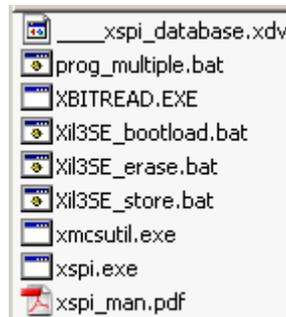

Figure 1 – FLASH_BURN Directory Contents after Extracting XSPI
- The version of XSPI included with this project is dated January 26, 2006. If you would like to update XSPI, unzip XAPP445 design file install_xspi.zip into the Xil13S500E_Serial_Flash_v81\FLASH_BURN directory. Run the self-extracting archive spi_setup.exe in this directory, extracting xspi.exe, the database .xdv file, and the readme file xspi_man.pdf in this directory. It is assumed that you have read and are familiar with the information contained in XAPP445. The FLASH_BURN directory contents are shown in Figure 1.